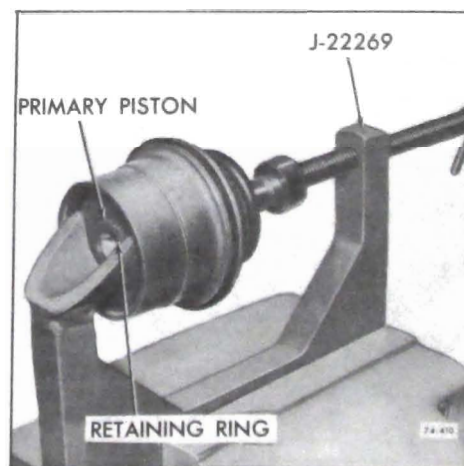

Figure 74-176
3. Install primary piston. Compress piston using J-22269. See Figure 74-176. Install new retaining snap ring.